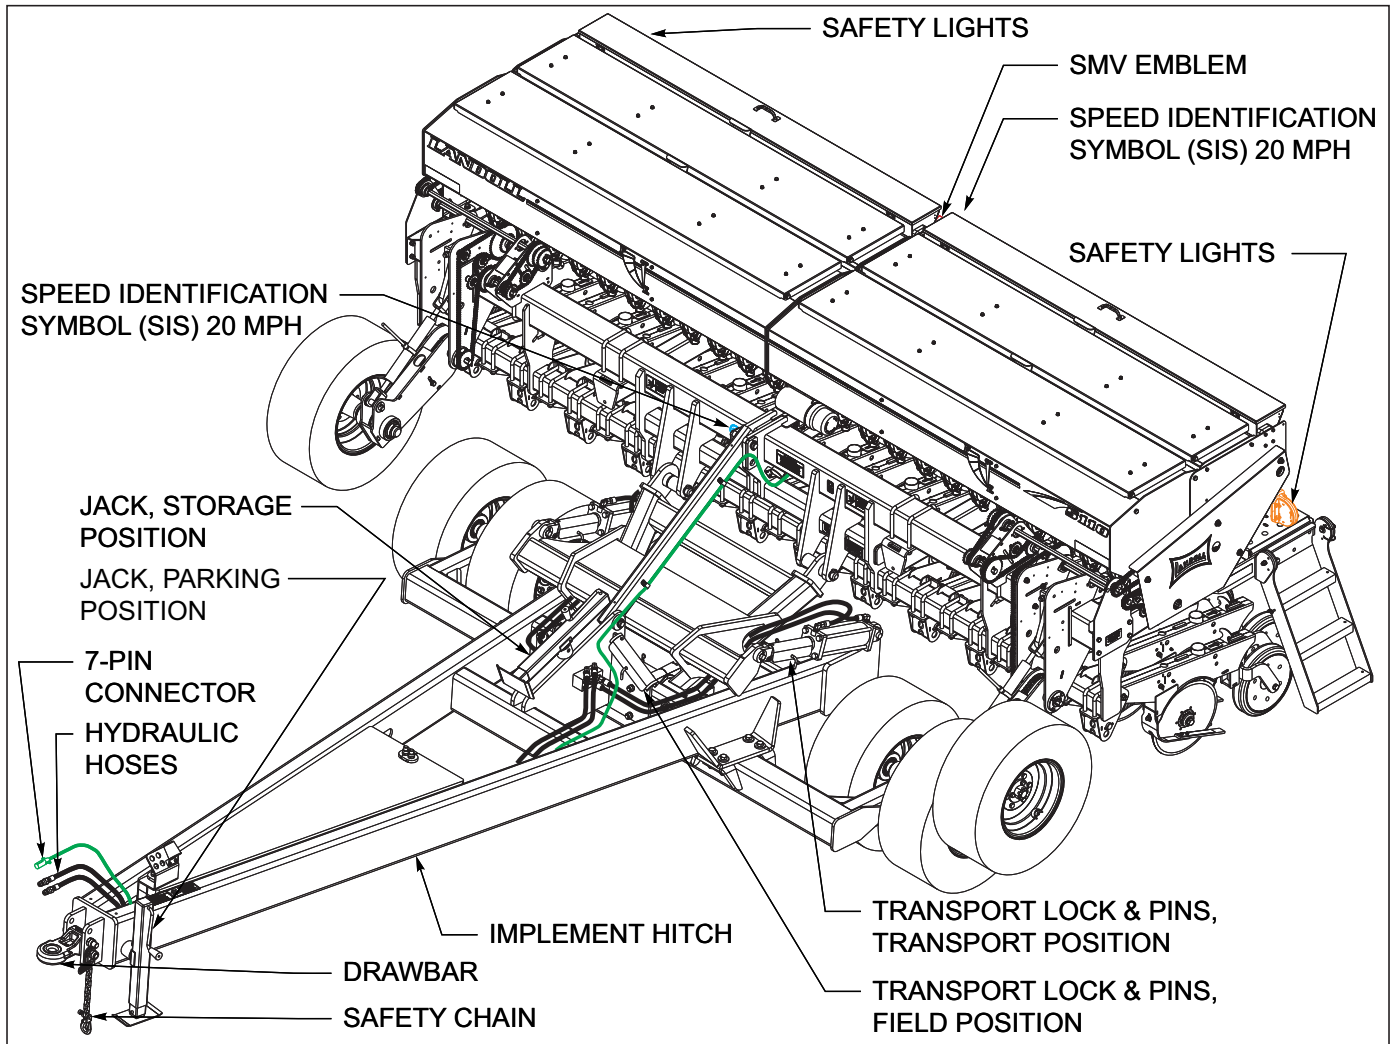

Figure 4-15: Transporting Grain Drill (Pull Hitch)
- a. Attach the safety chain to the tractor drawbar See Figure 4-15. Provide only enough slack in the chain for turning. Do not use an intermediate chain support as the attaching point for the chain on the tractor. Do not pull the implement by the safety chain.
3. Before transporting make sure lift cylinders are fully extended for maximum transport height. Install transport locks *See Figures 4-15*.